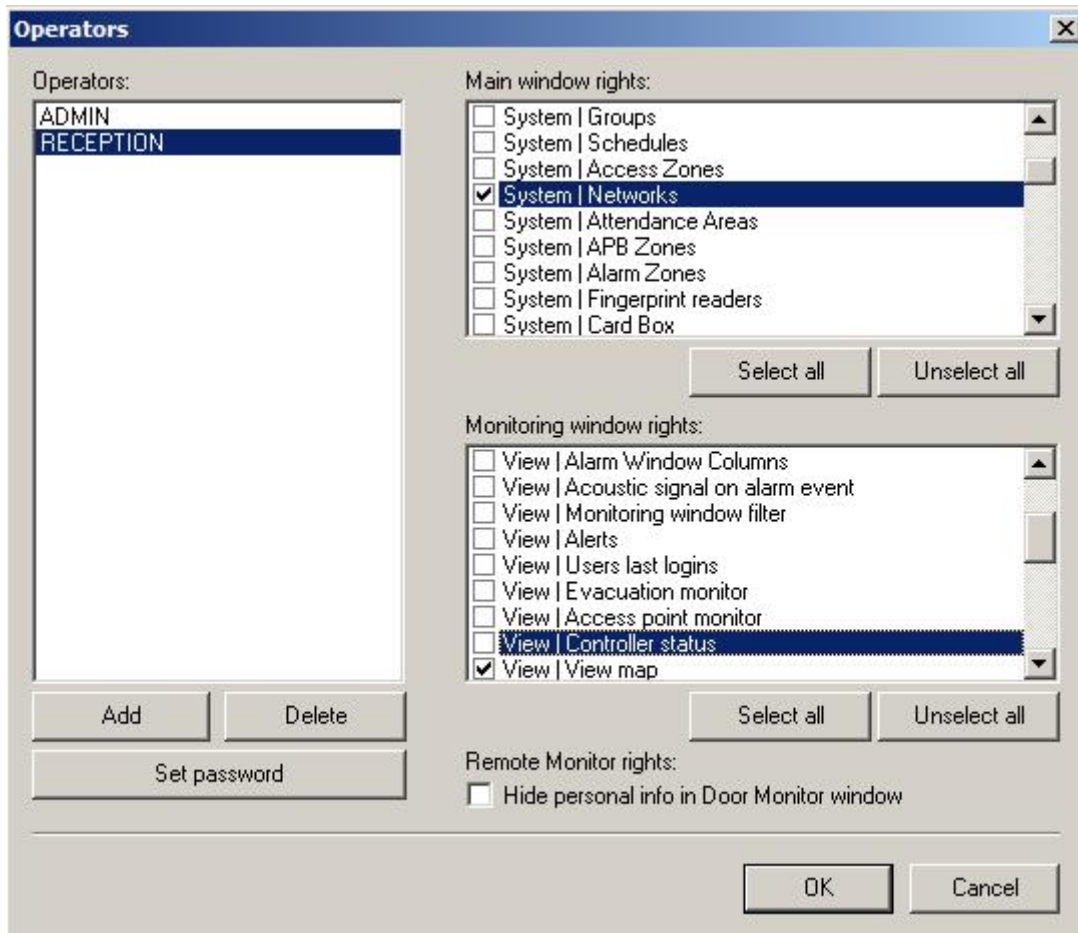

Fig. 2 Operator account(-s) in PR Master software
**Tools** and **Program operators** in the main window of PR Master software and then clicking of **Add** button in the window shown in fig. 2. In case of recommended scenario of operation it is enough to select the option **System | Networks** as well as **Tools | Identify user** in the top right area. If it is planned to apply monitoring of room occupancy then also the option **Tools | Online monitoring** in the top right area and options **View | Controller status** and/or **View | View map** in the bottom right area should be selected. Optionally, the administrator can also select the option **Tools | Quick user update** if alternative, not recommended method of user enrolment and deleting is to be applied.